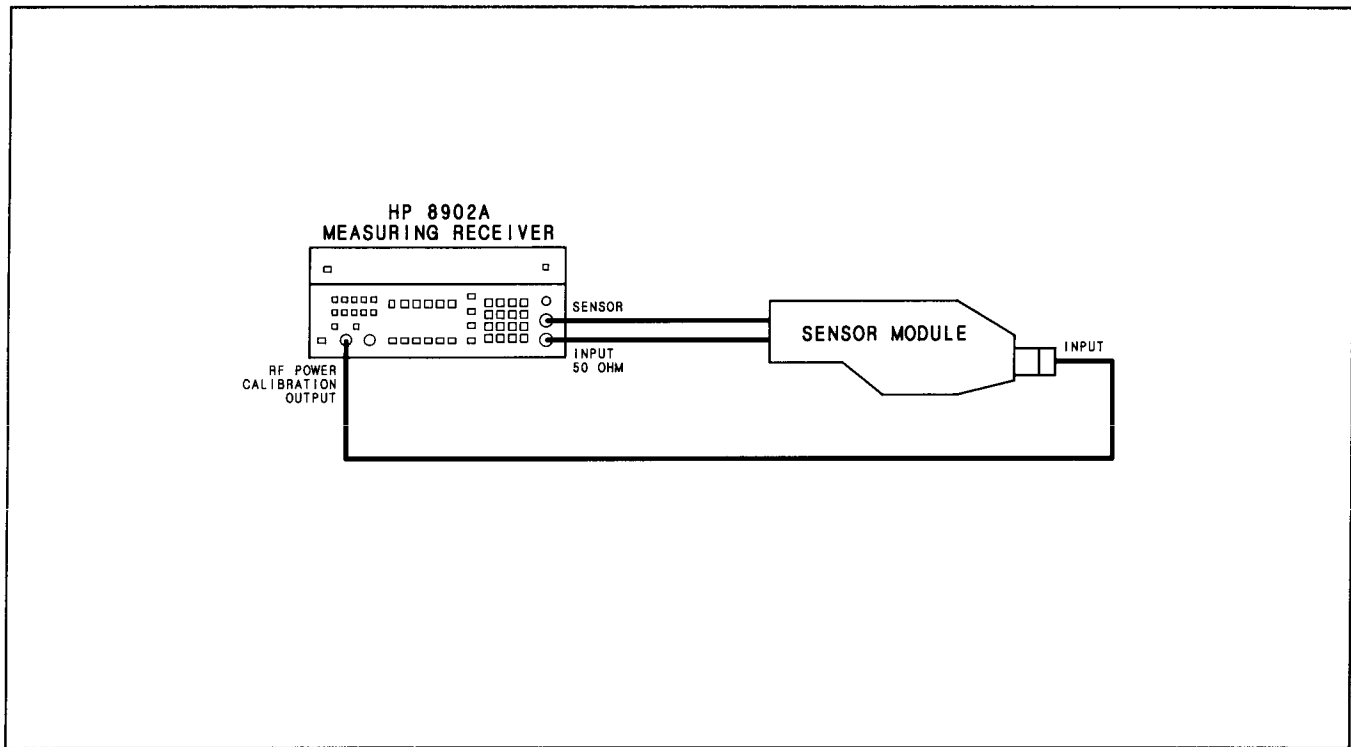

Figure 3-6. RF Power Calibration Setup
3. Connect the sensor module input to the RF POWER CALIBRATION OUTPUT connector. (See Figure 3-6.)